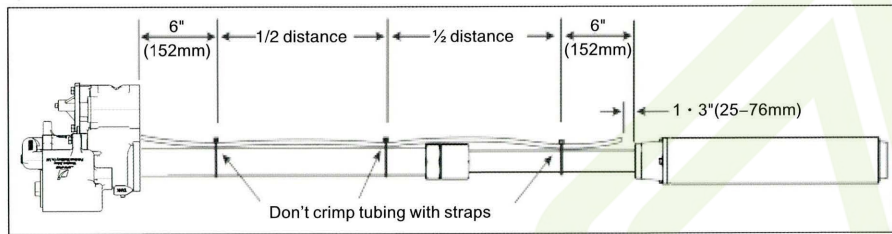

Figure 9: Attaching Return Line Tubing To Pump
9. Secure the siphon return line tube to the column pipe with tie straps. Locate the tie straps approximately 6 inches (152 mm) from the manifold. 6 inches from the discharge head and in the middle of the tubing (see Figure 9).